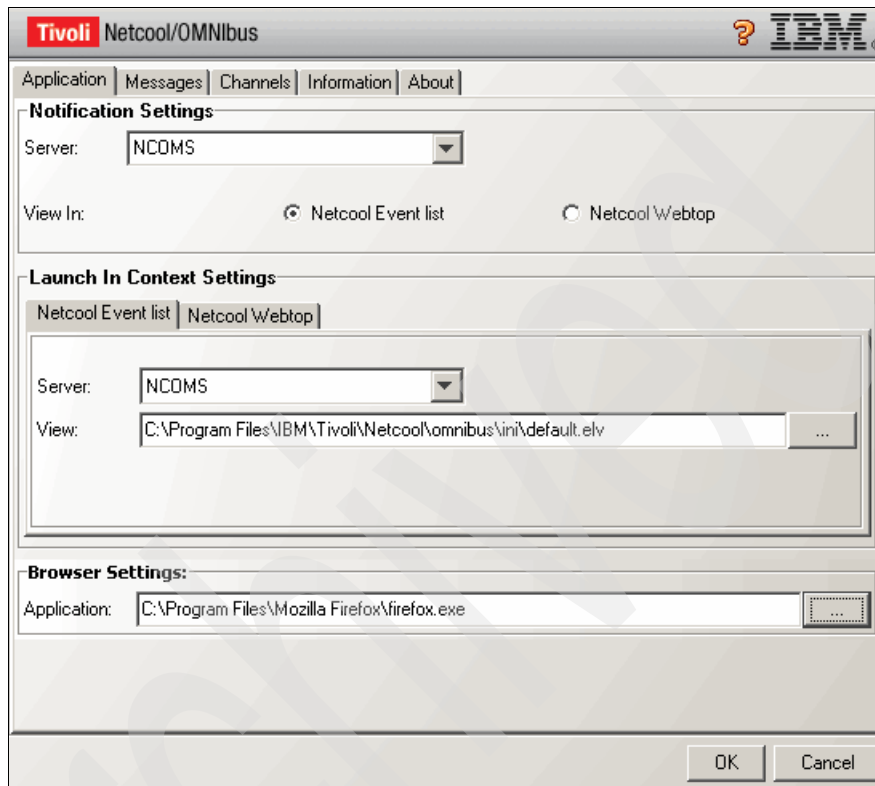

Figure 4-53 AEN client property: Application tab
2. Before starting the AEN client for the first time, right-click the AEN notifier icon and select **Properties**. The Application tab of the properties page is shown in Figure 4-53.